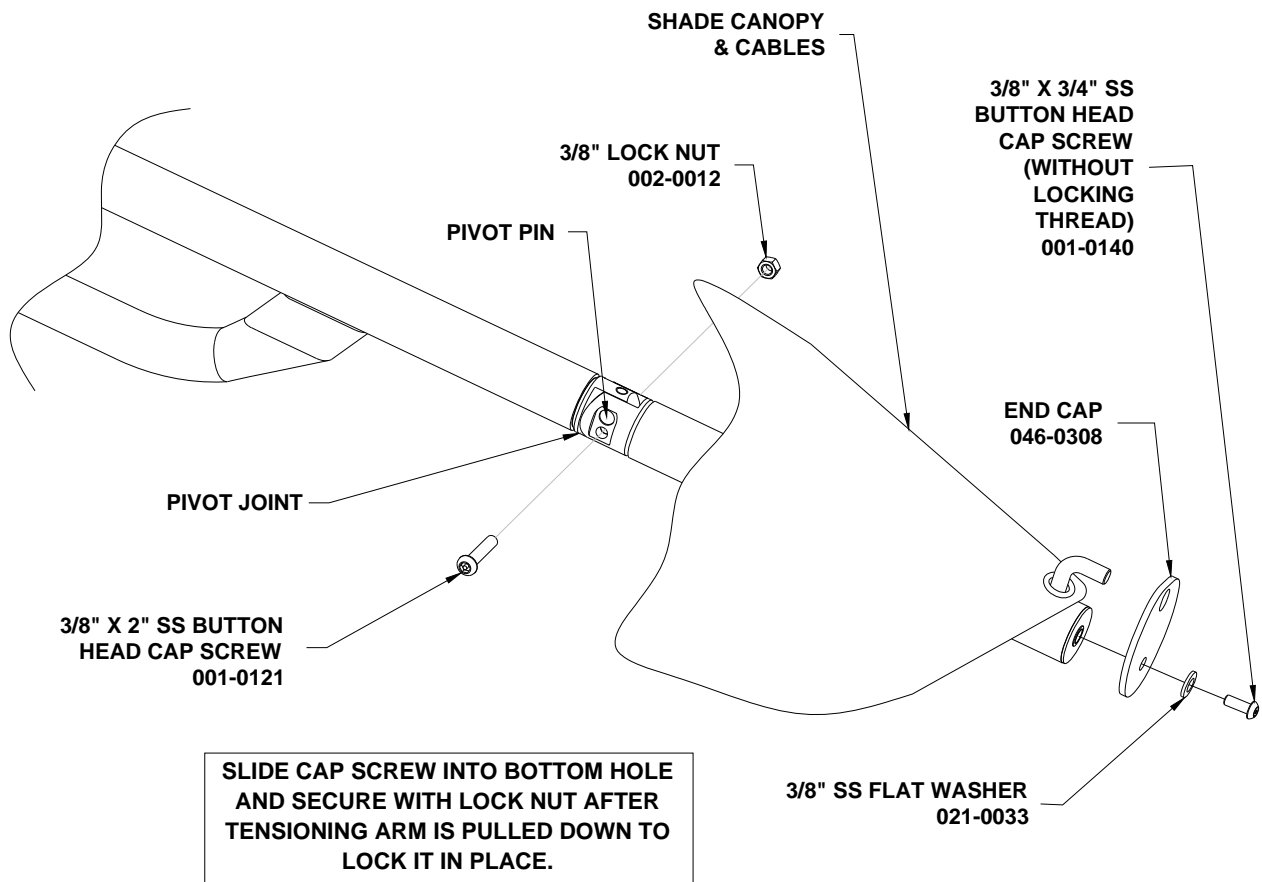

Figure 16: Tensioning Arm in 'Closed Position'
1. Remove end cap from end of tensioning rafter. See Figure 16.
2. Remove lower 3/8" x 2" button head cap screw and 3/8" locknut at the pivot joint that secures the tensioning arm in the closed position. See Figure 16.
2. Remove lower 3/8" x 2" button head cap screw and 3/8" locknut at all the pivot joints that secure the tensioning arms in the closed position. See Figure 16.
8. When tightening canopy is complete, secure tensioning arms with 3/8" x 2" button head cap screws and 3/8" locknuts. Tighten all hardware on pivot joint. See Figure 16.
9. Install end caps to all rafter ends using 3/8" x 3/4" SS button head cap screw (without locking thread) and 3/8" SS flat washer. See Figure 16.